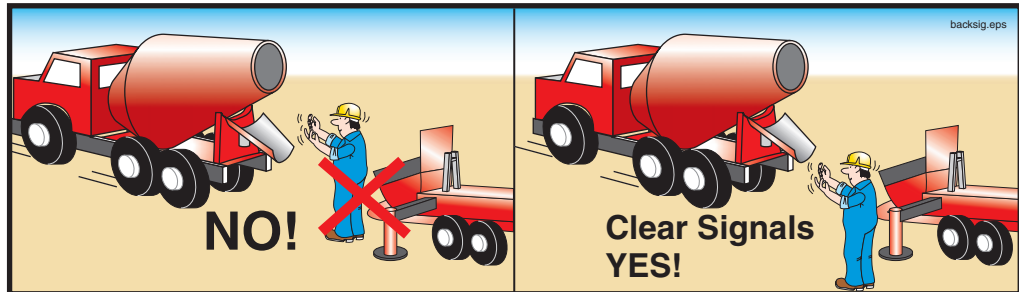

Figure 39
8.6 **⚠ WARNING** **Crushing hazard!** Never, ever position yourself between a ready mix truck and the pump! Stand off to the side, so the ready mix driver can see you at all times (Figure 39).
8.7 **⚠ WARNING** When backing in ready mix trucks, use clear and concise hand signals (Figure 39).